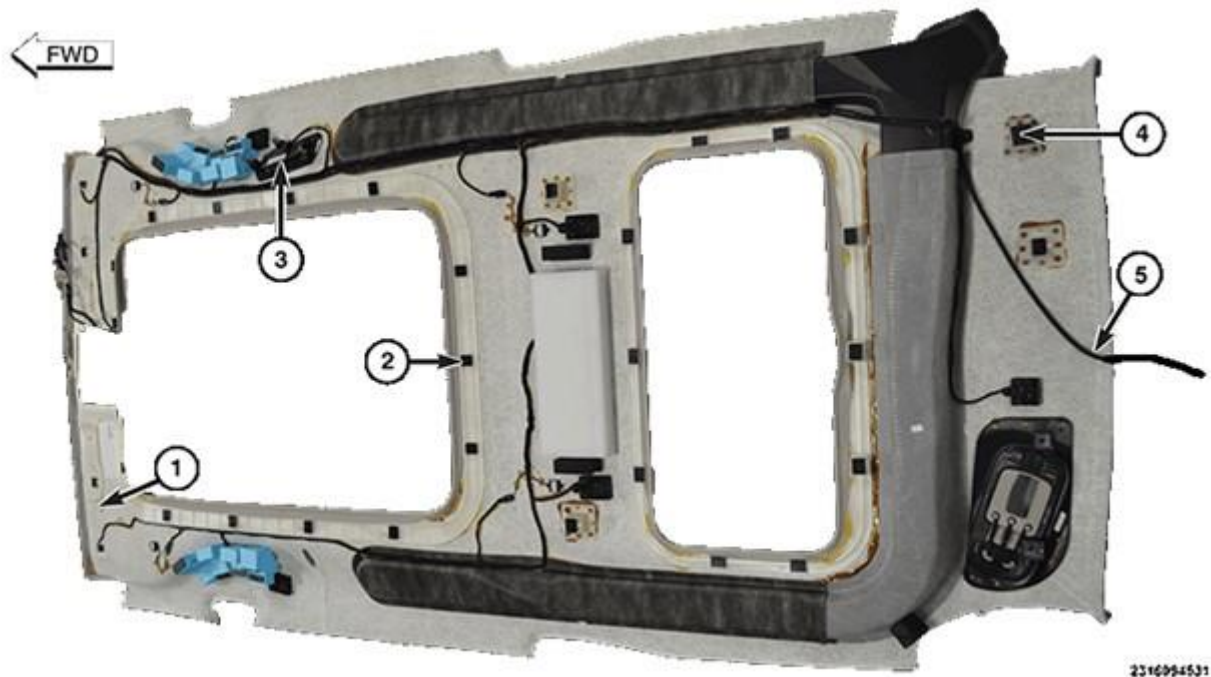

Figure 24 – Headliner is Shown Lowered for Reference
- 50. With the help of an assistant starting at the rear of the vehicle, release the hook and loop fasteners by hand, then around the sunroof openings, if equipped (Figure 24).
- 52. Lower the rear of the headliner slightly and disconnect the rear window washer hose (Figure 24).
- 53. Carefully pull the headliner downward releasing all the hook and loop fasteners (Figure 24).
- 70. Connect the rear window washer hose (Figure 24).
- 71. Attach all the hook and loop fasteners (Figure 24).